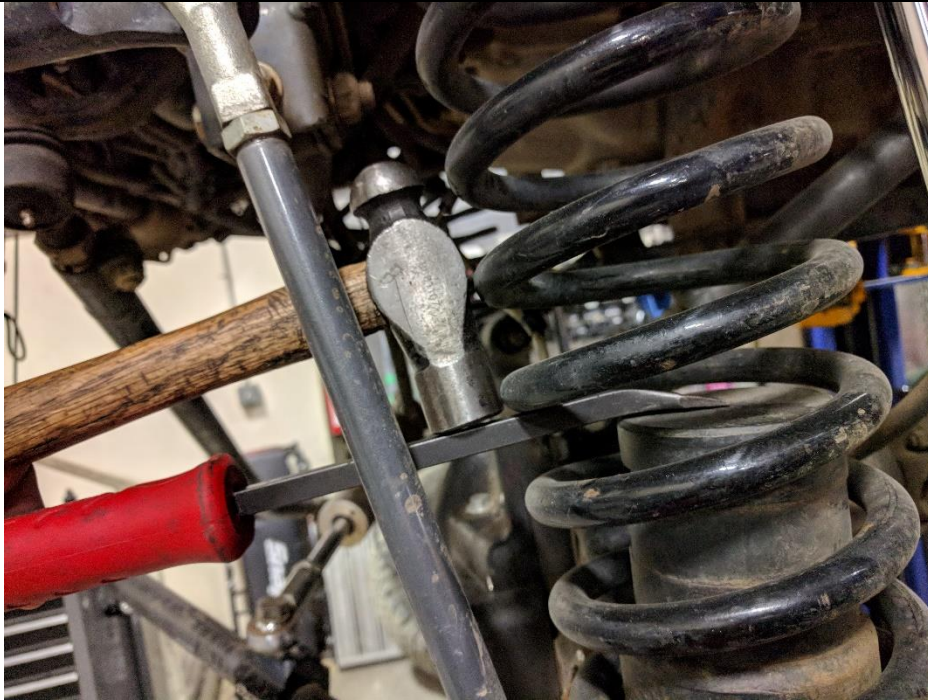

Figure 2. Using Pry Bar to Snap Spacers Together
- Use a prybar in between a wind of the coil spring and a hammer. Place the end of the prybar on the puck and pry against the coil spring. Strike the prybar with a hammer to seat the puck. See **Figure 2**.